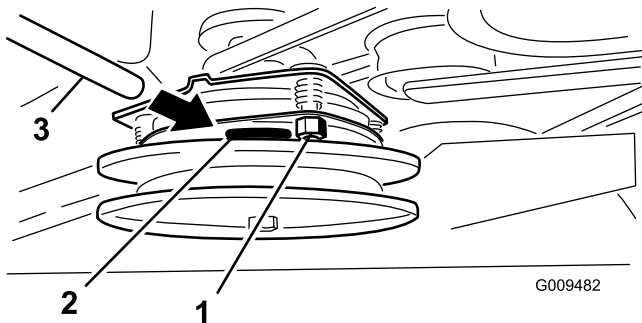

Figure 53
2. If adjustment is needed, then set at .015 inches (0.381 mm) for each of the three adjustment slot positions. Tighten the lock nuts until there is slight binding on the feeler gauge but it can be moved easily within the air gap (Figure 53).